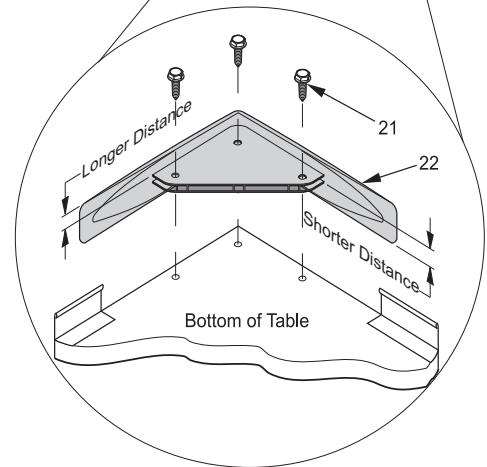

Figure 4
7. Lay Corner Caps #22 on table as shown in Figure 4. If Corner Cap sticks above table top surface of table, flip over so shorter distance is against edge. Secure to bottom of table with three screws #21. **DO NOT** over tighten Screws.